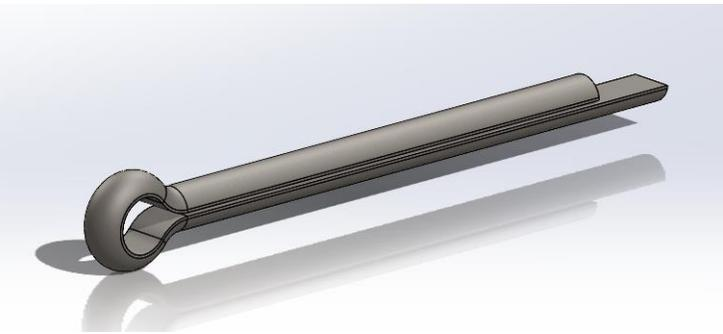

Figure 1. Cotter Pin
- If a cotter pin is present, it must be replaced. (See Figure 1 & 5)